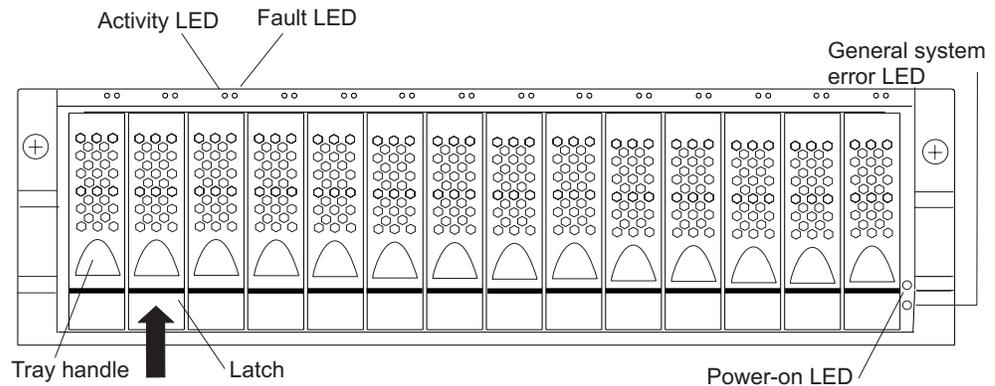

Figure 38. Hot-swap hard disk drive LEDs
2. Check for Fault LEDs shown in Figure 38. If any amber LEDs are lit, see Chapter 5, "Solving problems," on page 83.
- a. Release the latch on the drive CRU by pinching together the blue line on the tray latch and the finger hole on the tray handle, as shown by the arrow in Figure 38.